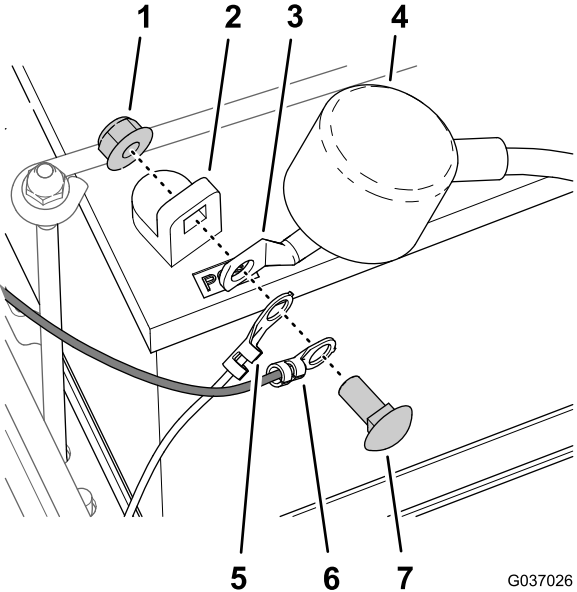

Figure 54
1. Align the ring terminal for the machine wire harness, ring terminal of the kit wire harness, terminal for the positive battery cable to the positive battery post (Figure 54).
2. Secure the ring terminals and battery terminal to the battery post (Figure 54) with the bolt and nut removed in step 4 of 1 Preparing the Machine (page 4).
3. Align the insulator cover over the positive battery terminal (Figure 54).